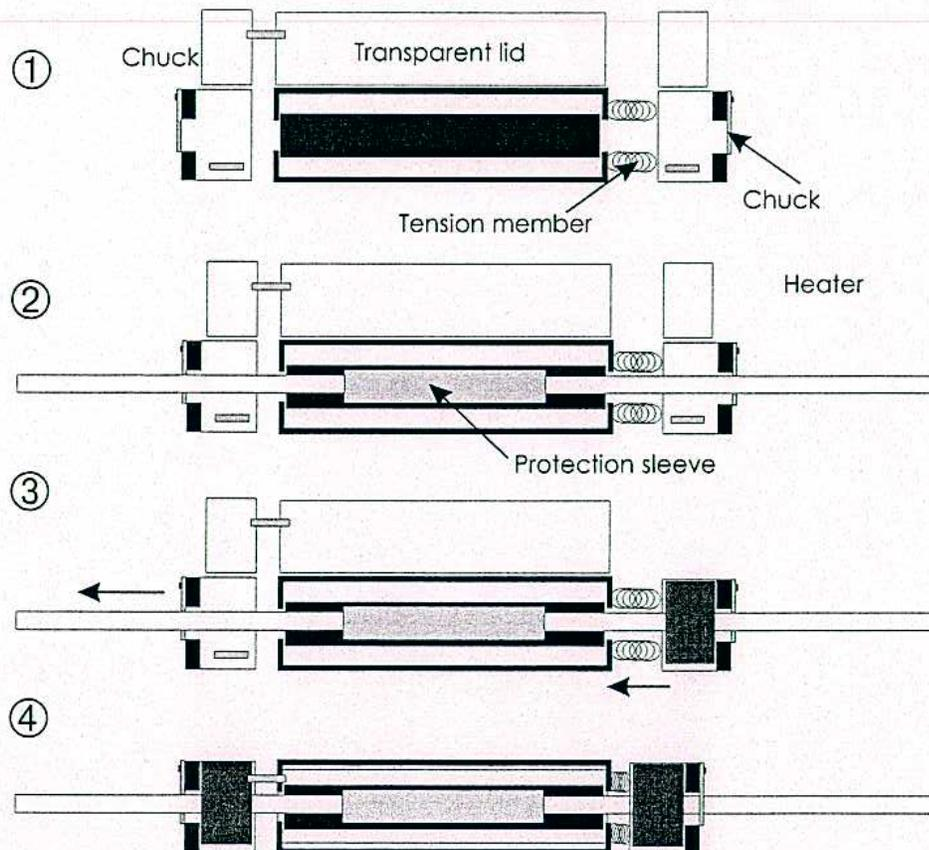

Figure 34. Placing the spliced fiber
7. The right side chuck has a built-in spring mechanism used to keep the fiber tight inside the fiber protection sleeve during the shrinking process. Referring to Figure 34, open the left heater chuck and pull the fiber to the left to activate the tension spring and close.